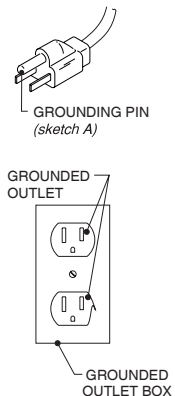

Figure 1
- These products use a grounded plug that looks like the plug illustrated in sketch A in Figure 1.